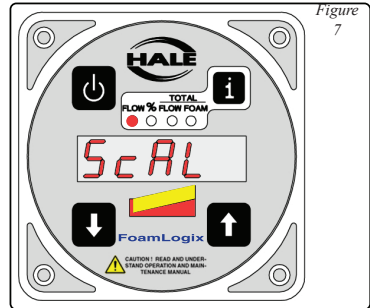

Figure 7
9. Release the DISPLAY (i) button. The display shows **ScAL** for approximately 5 seconds. The unit is reinitialized and the calibration factor is saved. (See Figure 7.)